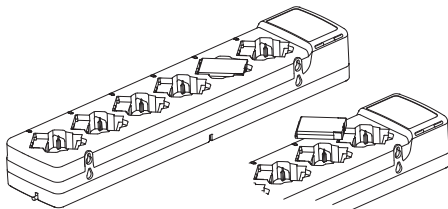

Figure 2: Charging Stand-Alone Battery
4. To charge a stand-alone battery, insert the battery into the pocket of the charger by (See Figure 2):